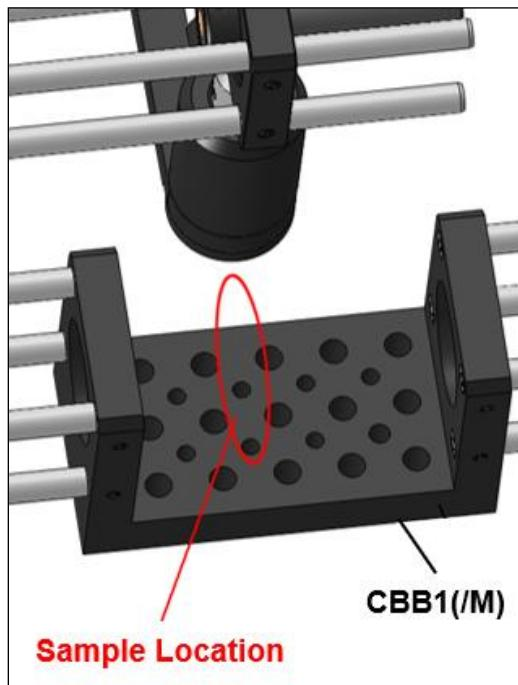

Figure 177 Sample Location
- 4) The system is now ready to be used in applications. Experimental samples may be placed into the CBB1(M) mount midway between the CP33(M) and CXY1A plates as shown below in Figure 177. **Adjusting the singular values can greatly impact the performance of a system and the user should include adjustments to the ranges in optimizing a system.** To start, for a BMC mirror try setting the Lower Threshold to 2 and the Upper Threshold to 55 and for the DMH/DMP start with a Lower Threshold of 1 and the Upper Threshold of 8.